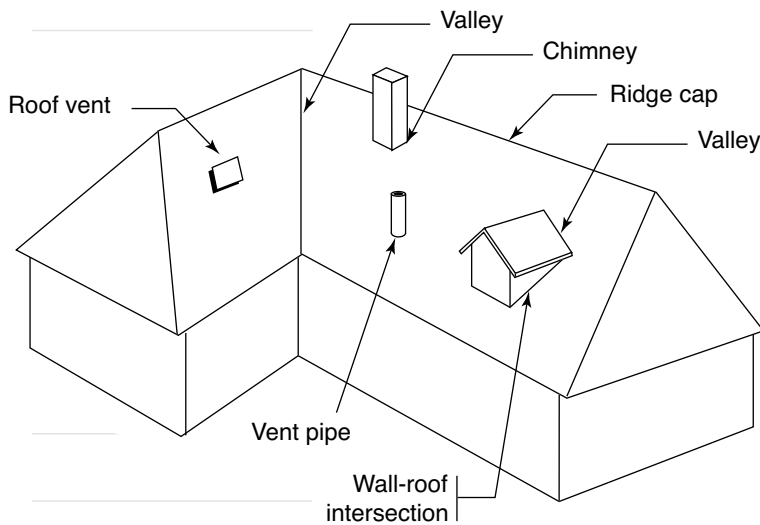

FIGURE 23
- ◆ Provide flashing and, where applicable, counterflashing at all intersections between roofs, walls, and chimneys. This will accommodate differential movement between surfaces and prevent the entry of water (see Figure 23).